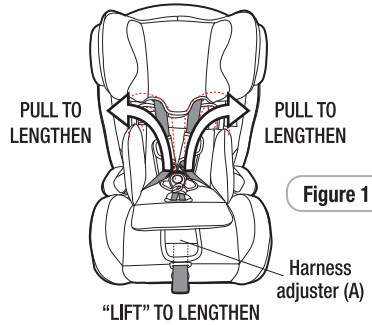

Figure 1
- Step 2:** To lengthen the harness "LIFT" the harness adjuster (A) (refer Figure 1) whilst grasping both shoulder harness straps and pulling. Ensure shoulder straps are pulled equally on each side.
- Step 3:** Lay the two harness straps (with tongues) to the sides of the child restraint (refer Figure 1).